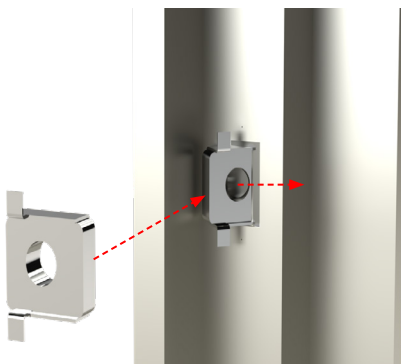

Figure 7
- Install four cage nuts (Item 12) into both the left and right MTK vertical rails (Figure 7).
Insert the cage nut (Item 12) into frame. Slide flush with the frame (Figure 7).